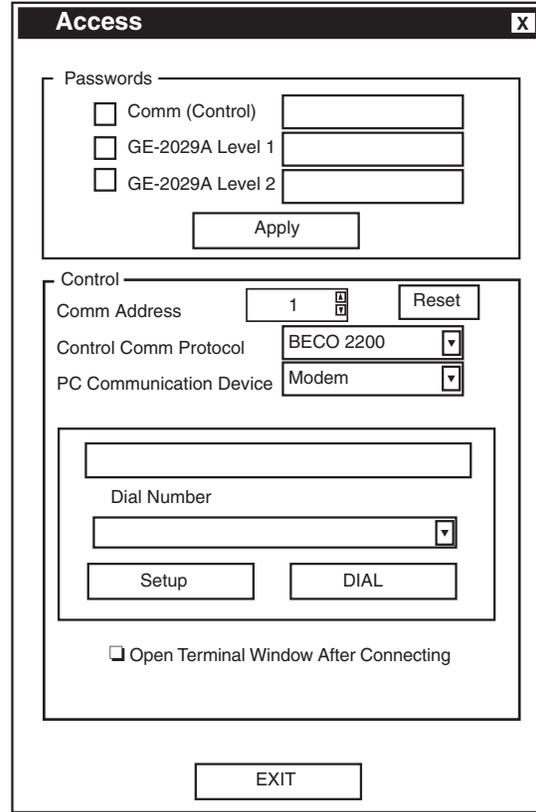

Figure 9-11 Communication Access (Modem) Dialog
2. Select modem from **PC Communication Device** section, GE-2029A will display Figure 9-11, **Communication Access (Modem) Dialog Screen**, then proceed as follows to input information required for modem communication: